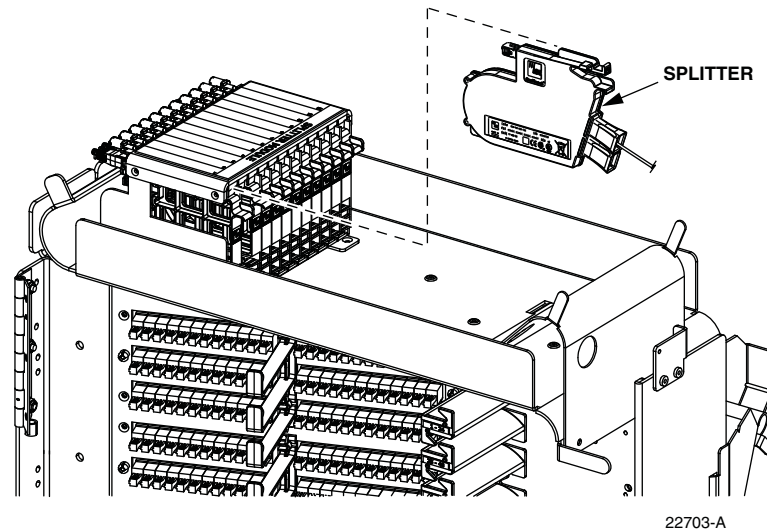

Figure 42. Splitter Installation
6. Insert the splitter into the mounting slot as shown in Figure 42.